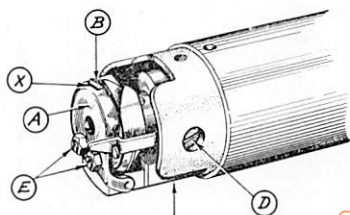

FIG. 1
To adjust clearance, loosen Set Screw (C) (nearest one towards operator of three Set Screws on underside of Yoke Casting) Fig. 1 and turn Eccentric Screw (D) right or left until the desired clearance is obtained. Then tighten Set Screw (C) securely.
The amount of clearance between the inside crown-ends of Adjusting Screws (E) and Bobbin (B) at (XX) (See Figs. 1 and 1A) should be just sufficient to allow the thread to pass between them. To adjust, loosen Lock Nuts and turn Adj. Screw (E) until it tightens on Bobbin Case - then loosen about $\frac{3}{4}$ of a turn - hold in position with screw-driver and tighten Lock Nuts.